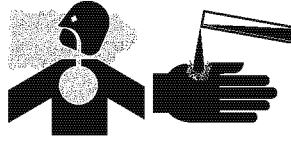

**Figure 6-14**
1. If the valve guides were not within specifications, use a drift pin and hammer to drive the valve guides (**Figure 6-14, (1)**) out of the cylinder head.